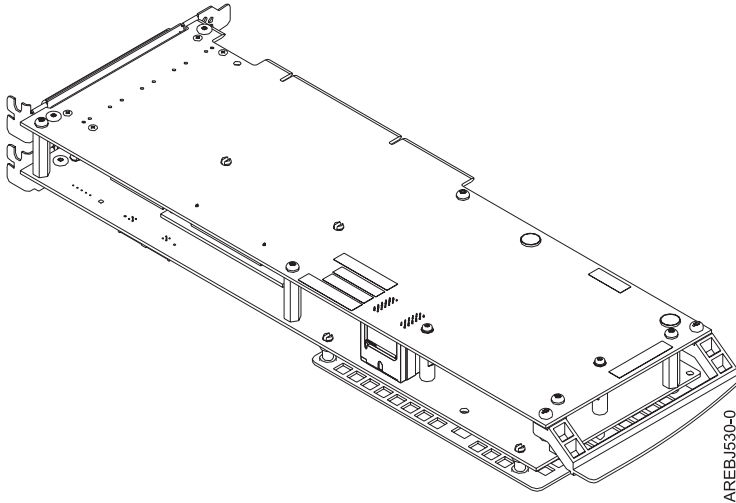

Figure 40. 572F/575C card set adapter
2. Place the 572F/575C card set adapter on an ESD protective surface and orient it as shown in Figure 40.